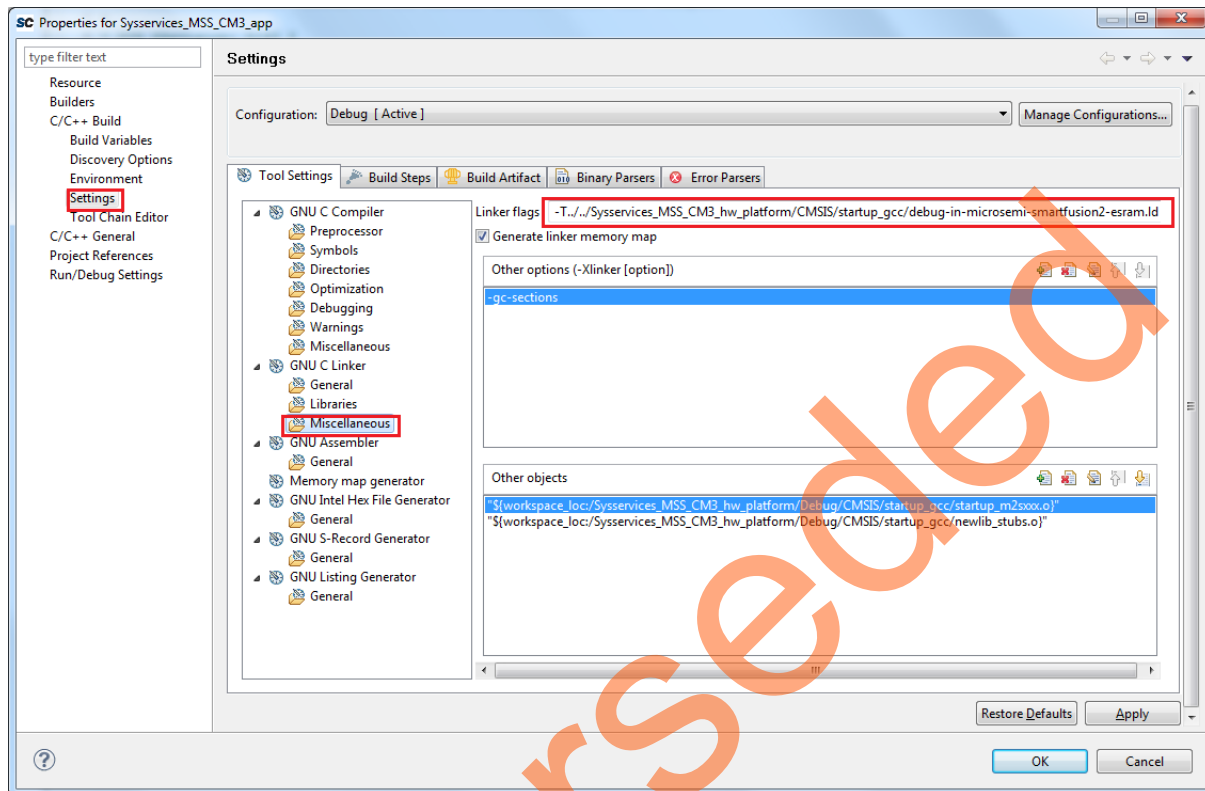

Figure 33 • Syssservices_MSS_CM3_app Properties Window
4. In the **Properties** window, go to **Settings** under **C/C++ Build** and select **GNU C linker as debug-in-microsemi-smartfusion2-esarm.ld** as shown in Figure 33. Click **Apply** and **OK**.